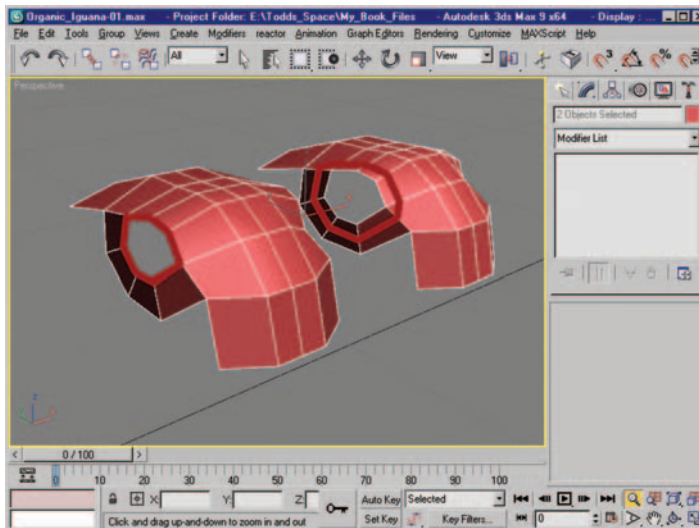

Figure 9.11 Edge selection and resulting new edge loop after using Chamfer.
11. Go to the Border subobject level, and select the open hole in the mesh (eye opening). Use Chamfer to create a new edge loop (Figure 9.11).